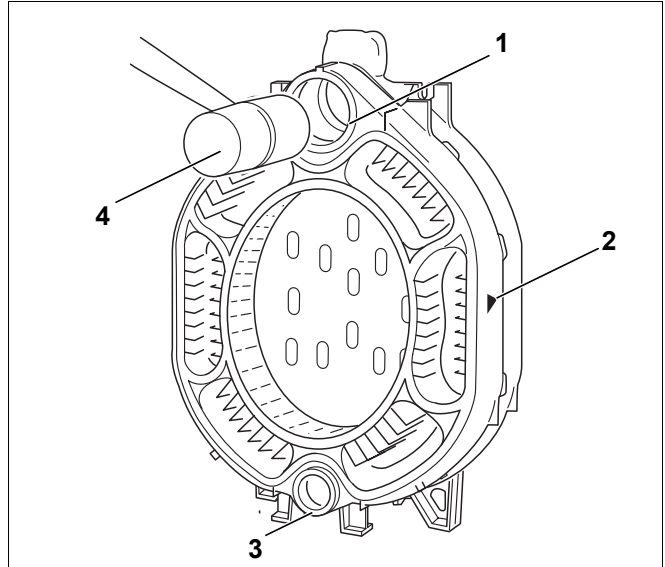

Fig. 13 Pushing home the central section
- Set the middle section with the upper and lower hubs (Fig. 13, **Item 1 & 3**) onto the nipples in the rear sections. Note: the assembly arrow (Fig. 13, **Item 2**) must point to the rear.
- Drive the first centre section onto the end section using a wooden or a rubber mallet (Fig. 13, **Item 4**).